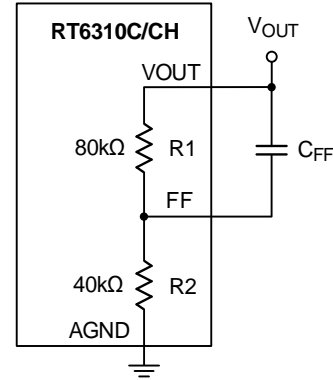
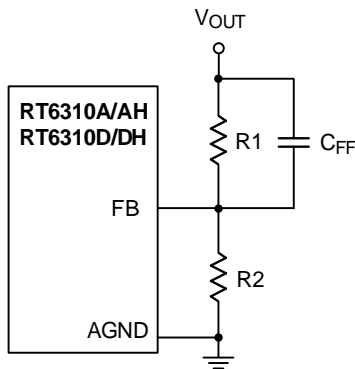
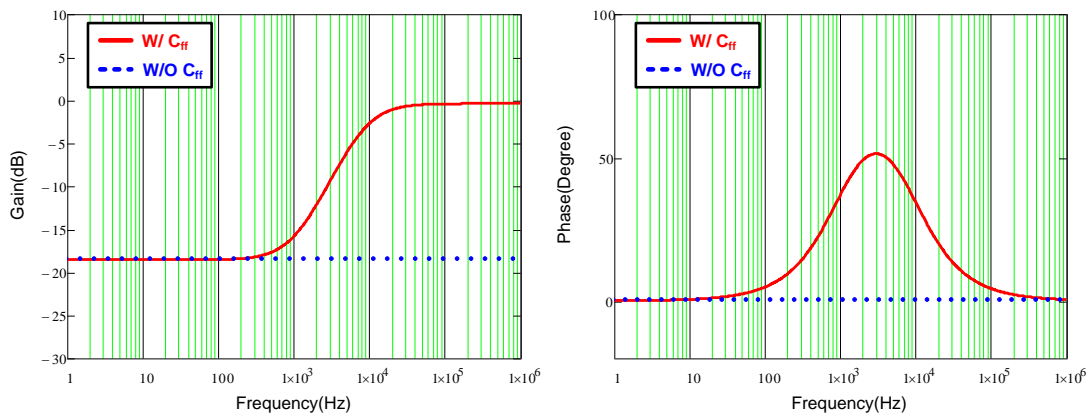

Figure 17. RT6310C/CH Feedback Loop with Feedforward Capacitor
Figure 16. RT6310A/AH/D/DH Feedback Loop with Feedforward Capacitor
Figure 18. Bode Plot with Different Feedback Loop Conditions
capacitor C_{FF} is used in the feedback loop to improve transient response, as shown in Figure 16 and Figure 17. Figure 18 shows the comparison result of bode plot with different feedback loop conditions. Referring to Figure 18, through connecting a C_{FF} in feedback network, the gain and phase are raised in mid-frequency, which not only extends the bandwidth, but also boosts the phase margin. Moreover, there is also a high frequency pole to eliminate high frequency noise. Consequently, those features of feedforward feedback network allow the RT6310 to have faster response to different load transients.
According to Figure 18, the maximum phase boost that occurs between zero and pole frequencies is defined as maximum phase boost frequency, as expressed in equation (4). Hence, in order to achieve the maximum